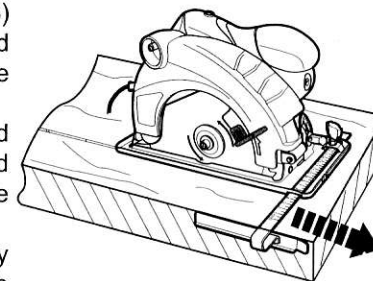

Fig. 11
- > Attach the parallel guide (8) to the product as described above and adjust to the desired width.
- > Place the product laterally to the workpiece and guide the product along the edge (Fig. 11).